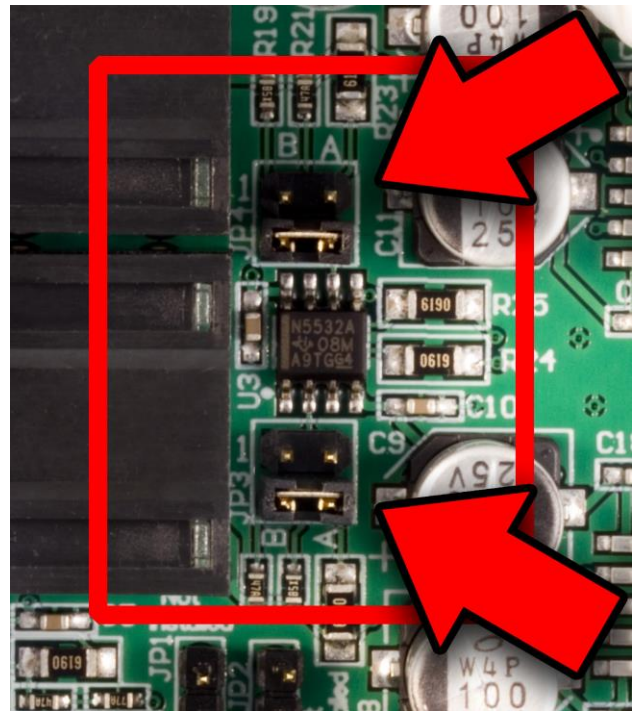

Figure 5 - *HPA2™* Gain is - 10 dB
- **Gain = - 10 dB** - see **Figure 5** (Factory Default)